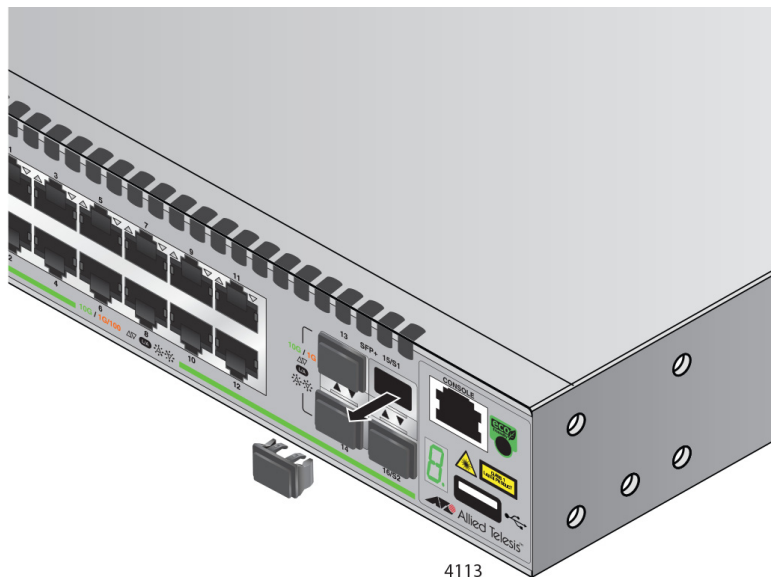

Figure 33. Removing the Dust Plug from the S1 Slot
1. Remove the dust plug from the S1 slot on the top switch of the stack, as shown in Figure 33.